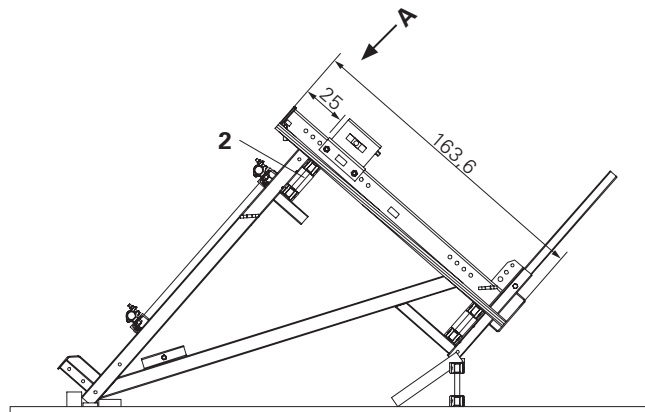

Fig. A1.17
1. Cut planking to size at right angles. Length according to decking requirements. (Fig. A1.17 + A1.18)